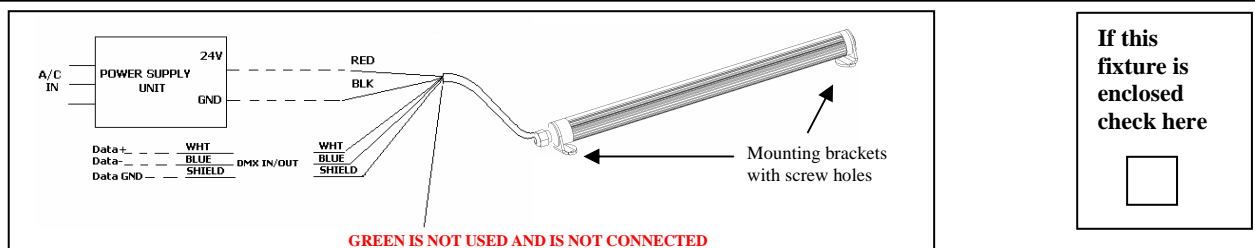

Figure 3: TRI COLOR (RGB) Dimmable LM Fixture
- For connecting an RGB fixture, refer to Figure 3 and Notes 3 ONLY